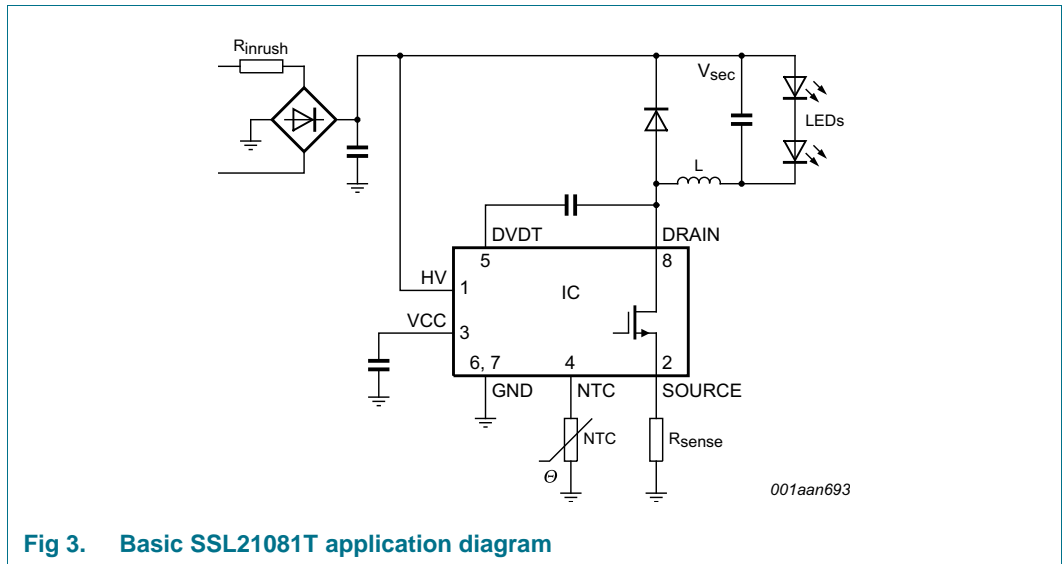
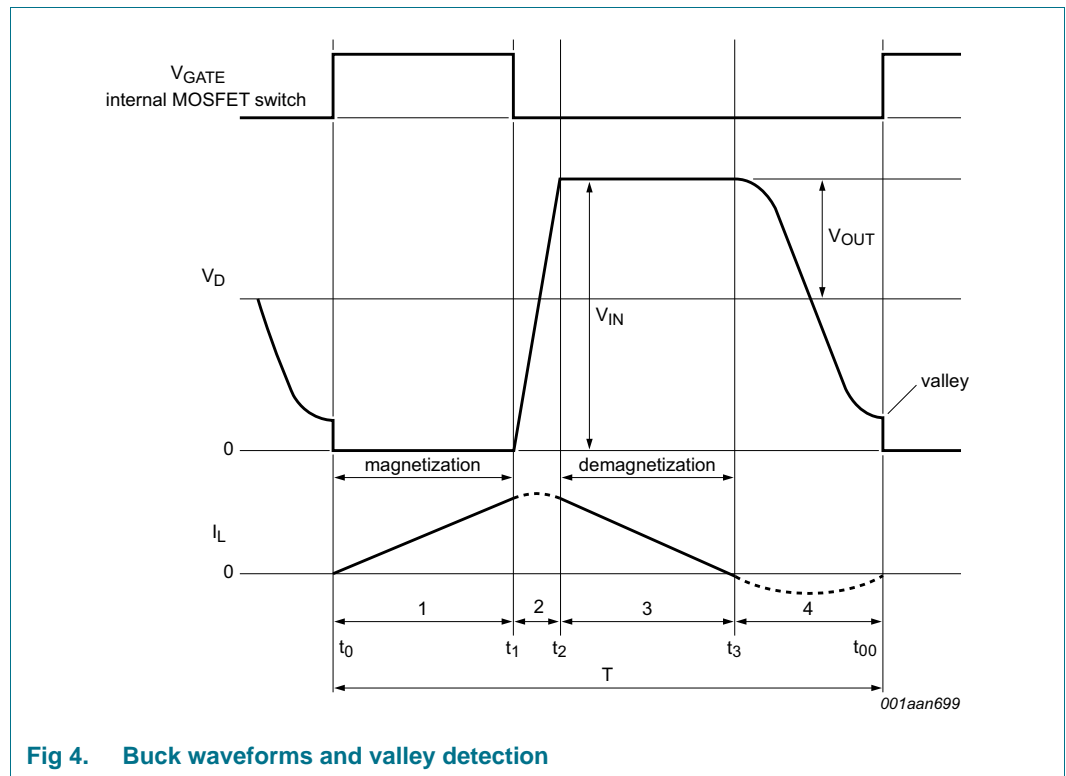

Fig 3. Basic SSL21081T application diagram
Fig 4. Buck waveforms and valley detection
- Low component count LED driver solution (see Figure 3):
The converter in the SSL21081T is a Boundary Conduction Mode (BCM), peak current controlled system. Figure 3 shows the basic application diagram. Figure 4 shows the waveforms. This converter type operates at the boundary between continuous and discontinuous mode. Energy is stored in inductor L each period that the switch is on. The inductor current  $I_L$  is zero when the internal MOSFET switch is switched on. Thereafter, the amplitude of the current build-up in L is proportional to  $V_{IN} - V_{OUT}$  and the time that the internal MOSFET switch is on. When the internal MOSFET switch is switched off, the current continues to flow through the freewheel diode and the output capacitor. The current then falls at a rate proportional to the value of  $V_{OUT}$ . The LED current  $I_{LED}$  is almost equal to half the peak switch current. As soon as the inductor current  $I_L$  is zero, a new cycle is started.
A new cycle is started when the primary switch is switched on (see Figure 4). Following time  $t_1$ , when the peak current is detected on the SOURCE pin, the switch is turned off and the secondary stroke starts (3). When the secondary stroke is complete and the coil current at  $t_3$  equals zero, the drain voltage starts to oscillate around the  $V_{IN} - V_{OUT}$  level. The amplitude equals  $V_{OUT}$ . A special feature, called valley detection is an integrated part of the SSL21081T circuitry. Dedicated built-in circuitry connected to the DRAIN pin, senses when the voltage on the drain of the switch has reached its lowest value. The next cycle is then started and as a result the capacitive switching losses are reduced.